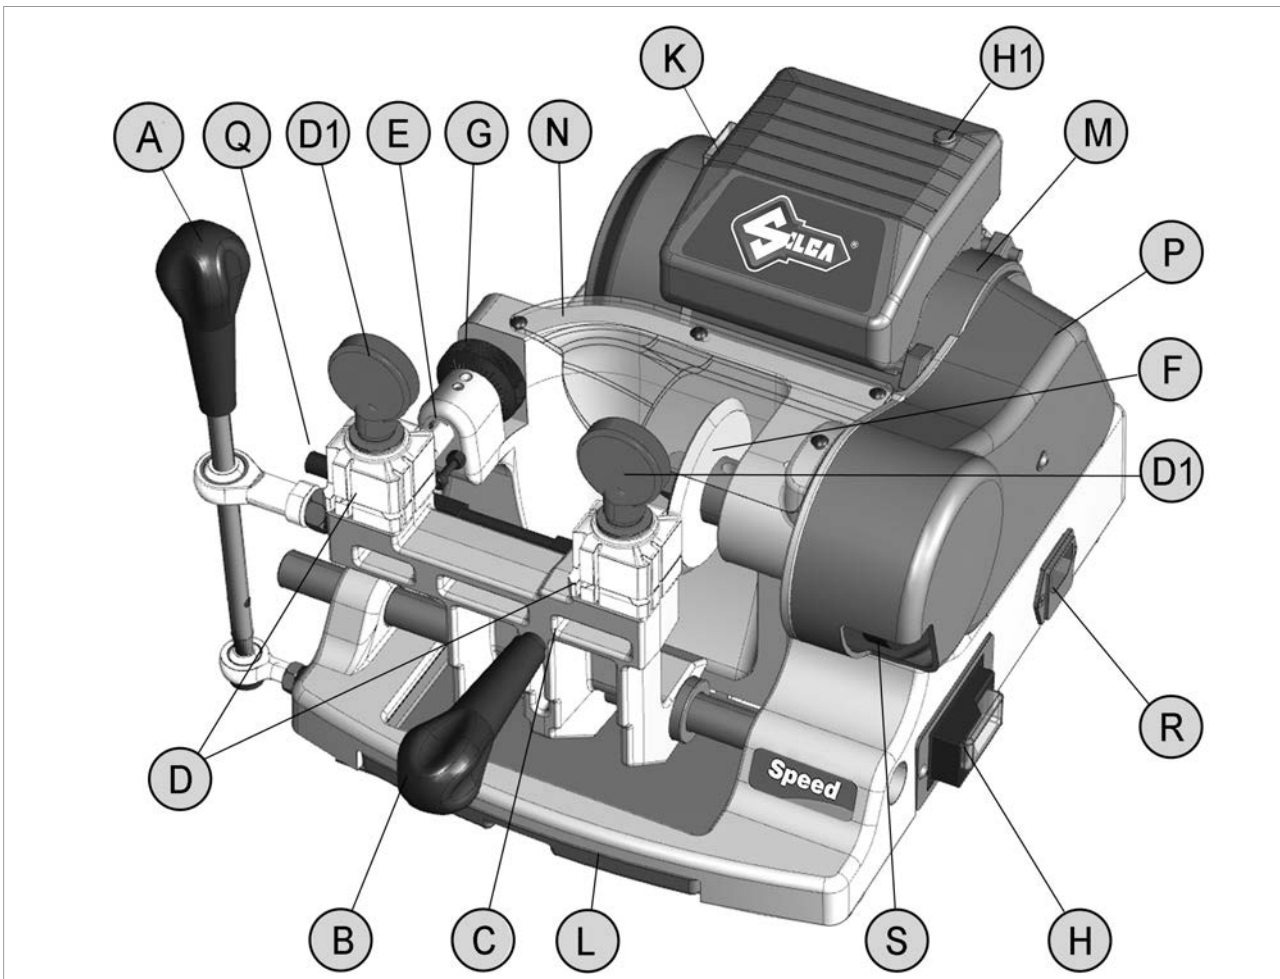

Fig. 5
Motor transmission takes place by belt. On the right-hand side of the motor there is the transmission shaft which moves the cutting tool (F) and the brush (S) (see Fig. 5). These components are protected by: cutting tool cover (N), brush cover (P).